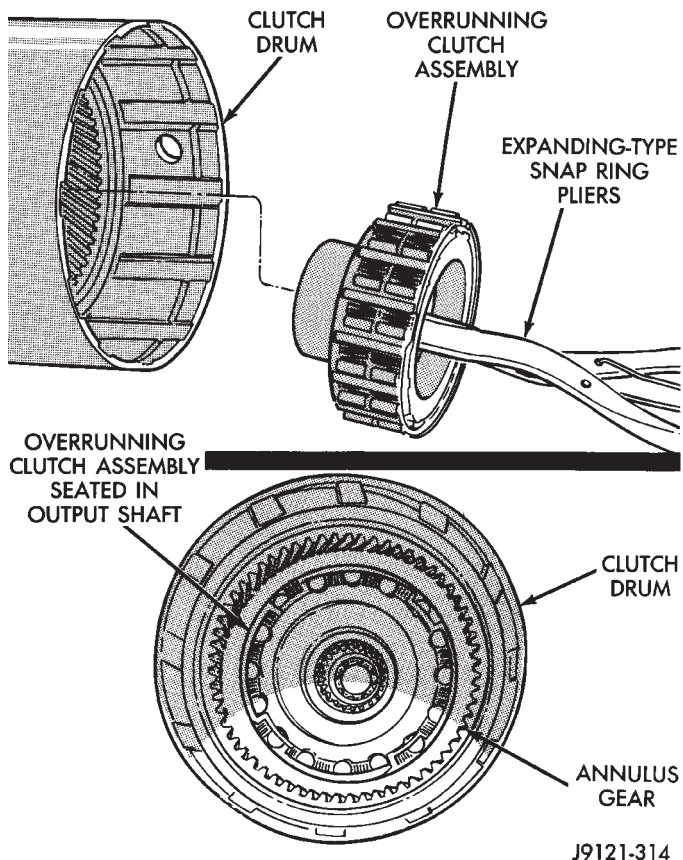

Fig. 283 Overrunning Clutch Installation
(10) Install overrunning clutch in output shaft (Fig. 283). Insert snap ring pliers in hub splines. Expand pliers to grip hub. Then install assembly with counterclockwise, twisting motion.